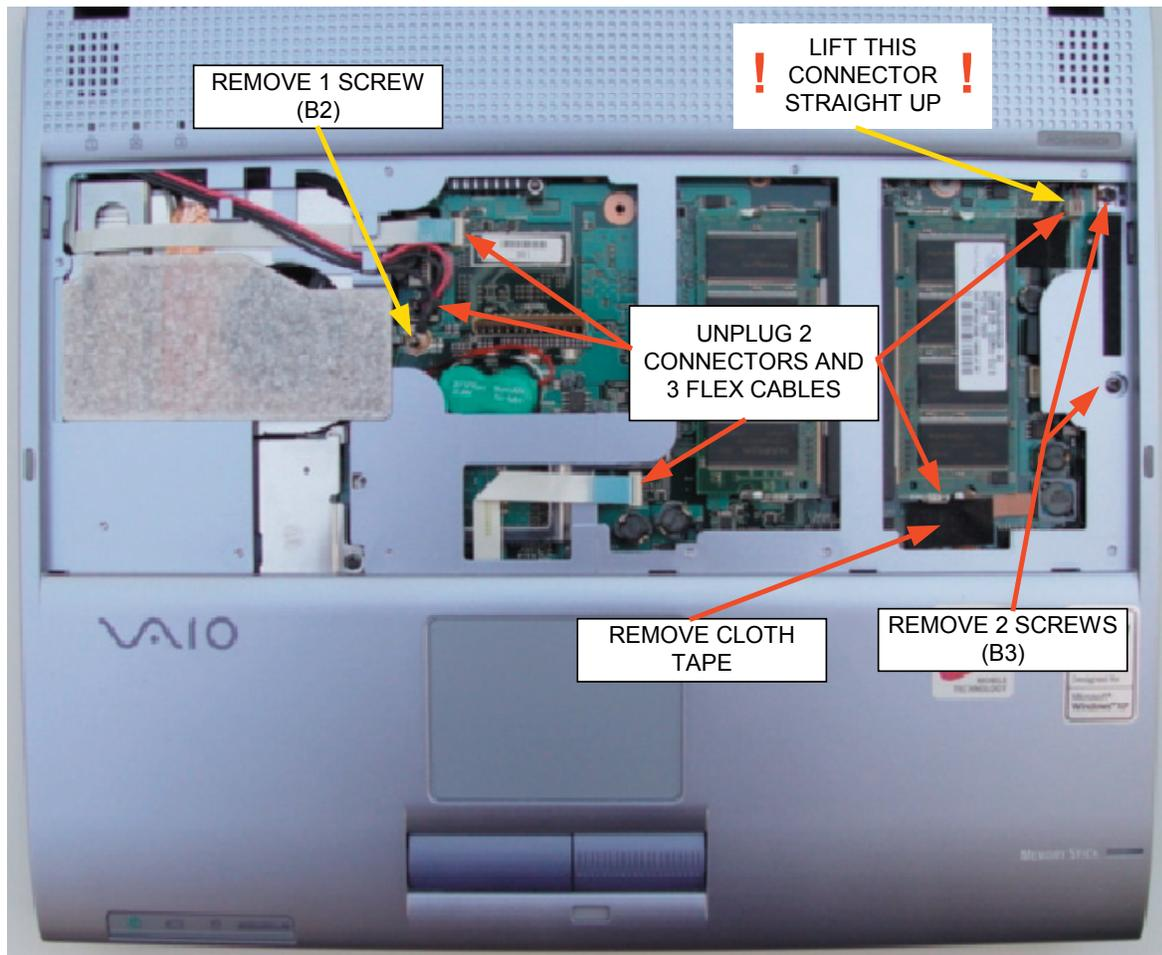

FIGURE 2-5 - PALM REST REMOVAL (PART 1)
Step 1: Referring to Figure 2-5, *carefully* (to avoid tearing the FPC cable) remove the cloth tape located over the FPC cable on the lower right side of the opening. Unplug the 3 FPC cables and 2 harness connectors as shown. **CAUTION:** The speaker wire connector located at the upper right corner must be lifted straight up. Remove 1 screw (B2) and 2 screws (B3).